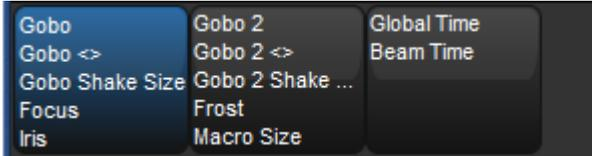

Figure 6.7. The Wheelsets Toolbar for a Studio Spot 575
2. If the selected fixture has more parameters of the selected type than there are wheels, the Wheelsets Toolbar will open; see *Figure 6.7, "The Wheelsets Toolbar for*